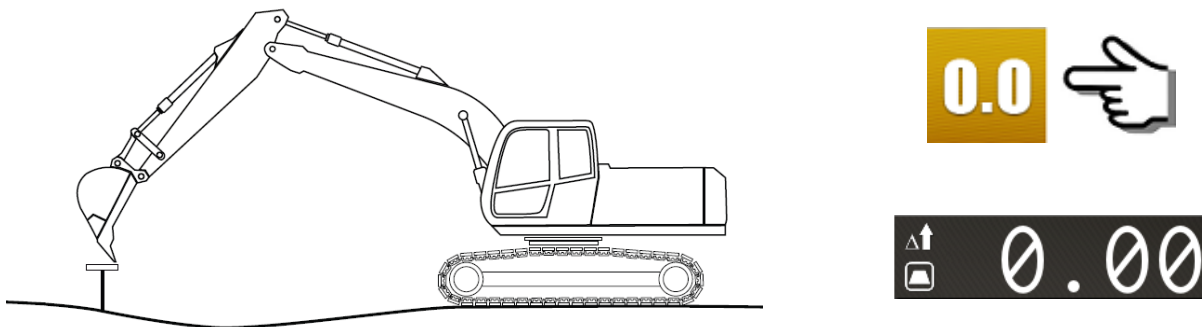

Fig. 37: Zeroing the reading on a stake
- 1) Place the bucket on a reference point and zero the measurement value (Fig. 37).
Set the bucket at the starting point (the stake in this example) and zero the measurement value by pressing “Zero” in the “Right menu”. The reading “0.00” appears on the screen (Fig. 37).